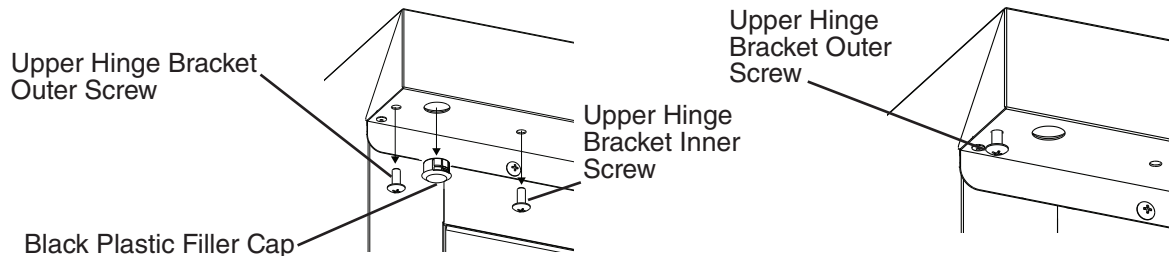

Fig. 34
- 15) Remove the upper hinge bracket screws from the new location and apply Loctite Threadlocker Blue 242 or 243 to the threads. Next, start the upper hinge bracket outer screw into the appliance. Rotate a few threads into the appliance; do not tighten the screw. See Fig. 34.